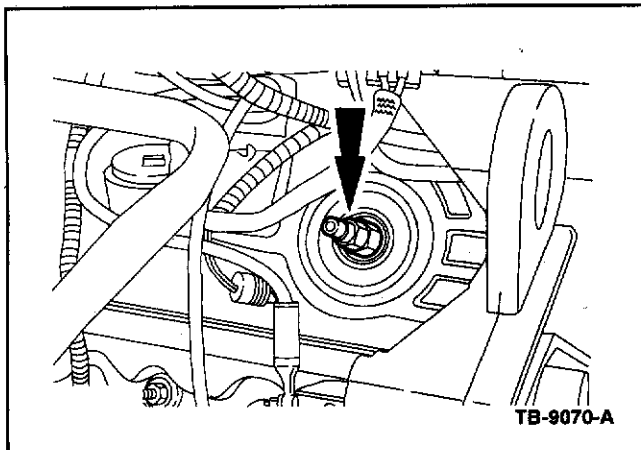

Figure 4 - Article 08-9-9
1. Remove the ICP sensor from the right side valve cover. Refer to WSM, Section 303-04C. Install the ICP system test adaptor 303-765 in the threaded cavity where the ICP sensor was located. (Figure 4)